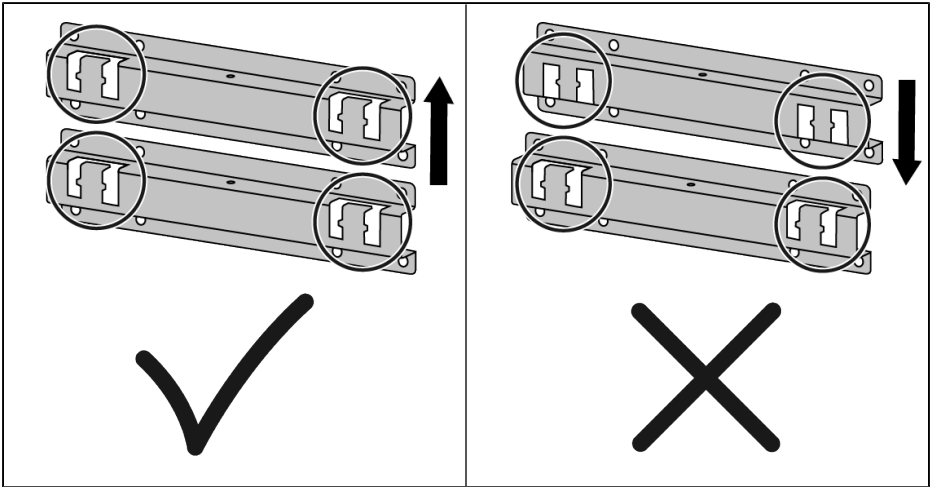
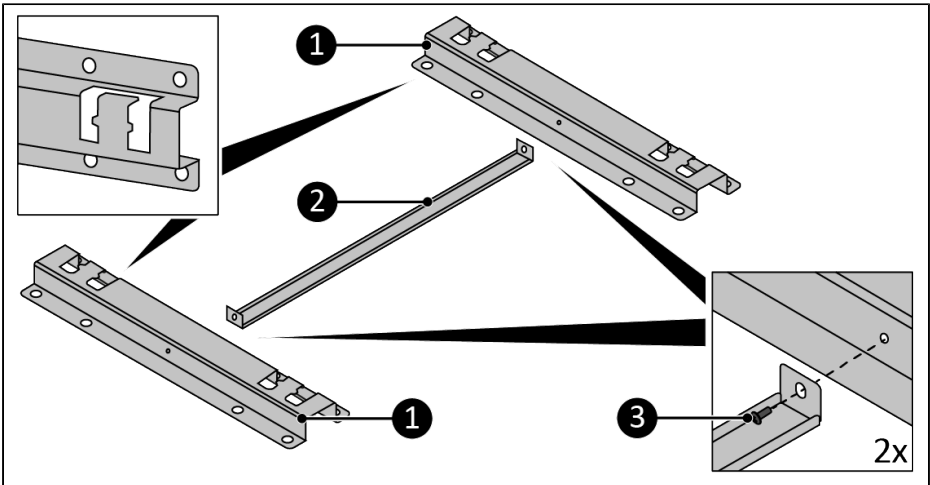

Figure 32.
Figure 33.
Make sure the openings of both brackets point upwards, see Figure 32 and Figure 33 for reference.
1. Mount the distance holder (Figure 33, pos. 2) to the brackets (Figure 33, pos. 1) using the 2 M4 12mm screws (Figure 33, pos. 3).